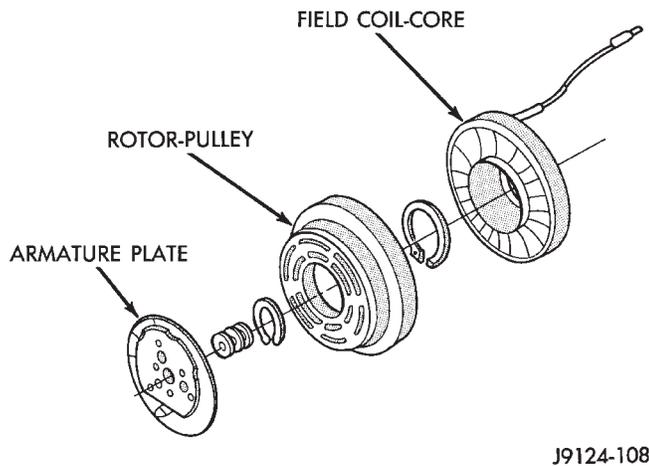

Fig. 2 Armature Plate/Rotor-Pulley/Field Coil-Core
- (3) Tap the armature plate with a plastic and remove plate and shim(s) (Fig. 2).
(4) Remove rotor-pulley retaining snap ring with Snap Ring Pliers C-4574. Slide rotor-pulley assembly from compressor. Use a plastic hammer, if necessary.
(5) Loosen the lead wire retaining clamps and remove lead wire from the compressor front end plate. Disconnect the lead wire from the thermal limiter switch.
(6) Remove the snap ring which secures the field coil-core assembly to the front boss (Fig. 2). Note the alignment of field coil-core assembly when removing.